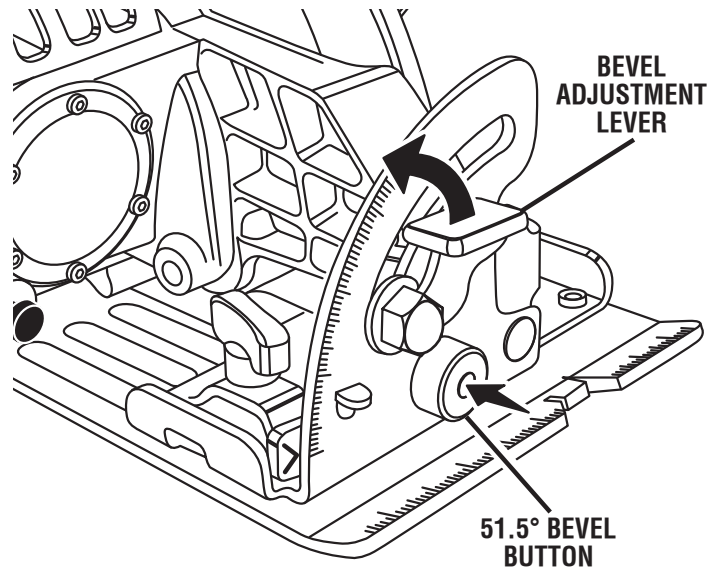

Fig. 16
See Figures 16 and 17.
See Figure 16.
**Note:** Pull the adjustment lever all the way up to set the angle at 51.5°. To reach the 51.5° bevel setting, push the 51.5° bevel button shown in figure 16.